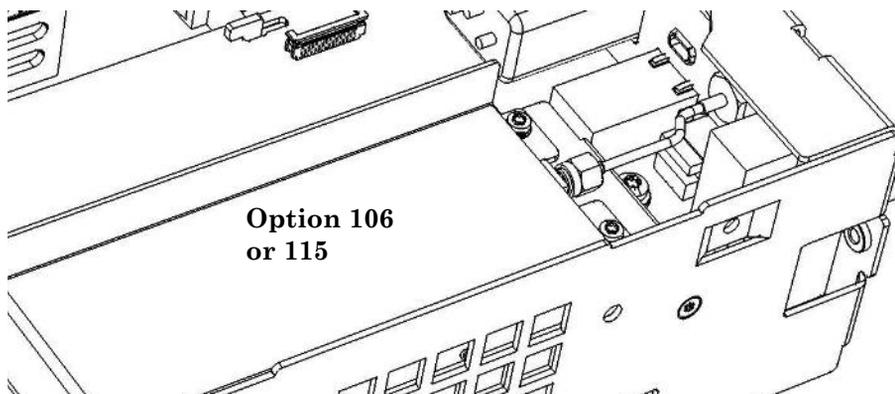

Figure 4-15. Channel 2 assembly installed on top of the motherboard, with the SMA edge connector pointing toward the rear of the counter.
- 4 Set the Channel 2 assembly down on top of the motherboard so that the SMA edge connector is towards the rear panel. The front flange on the right-front of the Channel 2 assembly bracket must rest on the tab protruding from the front panel (see Figure 4-15).